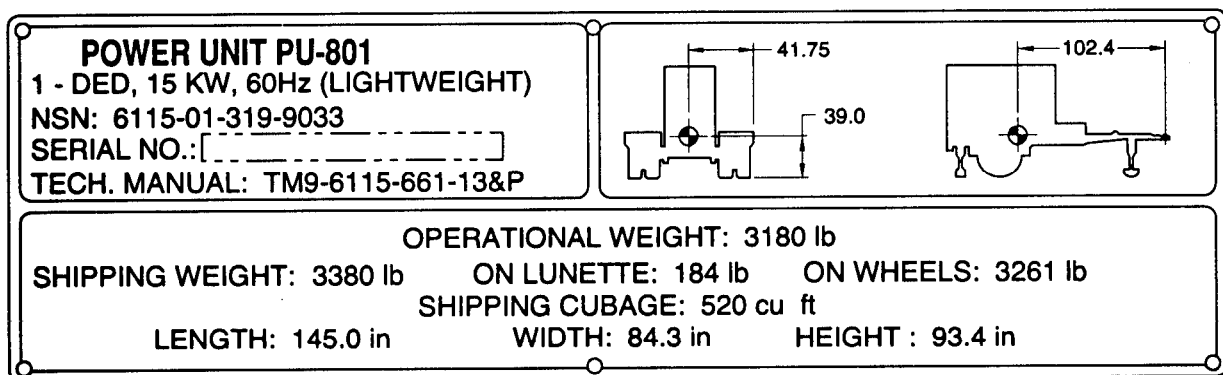

Figure 2-13. PU-801 Identification/Transportation Data Plates.
**2-6.2 PU-801 Identification/Transportation Data Plate.** See figure 2-13. This plate is located on the trailer body.